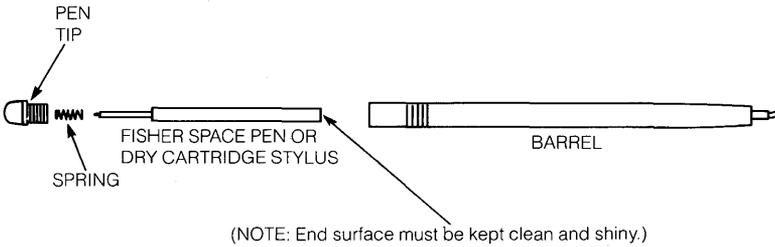

Figure 4: The components of the pen
3. The tip of the pen may be loose. Make sure that the spring inside the pen is properly seated. (See Figure 4 in Section 4 of this guide, "Care and Maintenance.") Turn the pen tip clockwise and tighten it firmly.